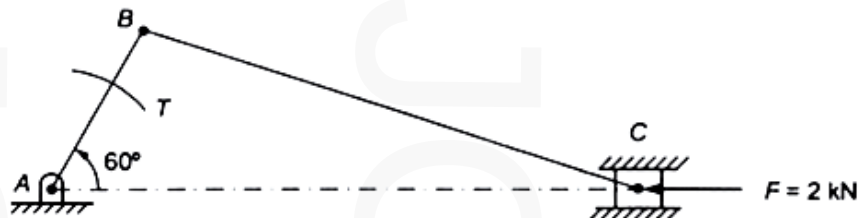

Fig. 5
- 17 a) In the slider-crank mechanism shown in Fig. 5, the value of force applied to the slider is 2 kN. The link dimensions are $AB = 80$ mm, $BC = 240$ mm, and $\theta = 60^\circ$. Determine the forces on various links and driving torque T . 8
- b) What is the principle of virtual work? Using this principle establish the relation between torque (T) and slider force (F) for the mechanism shown in Fig. 5. 6